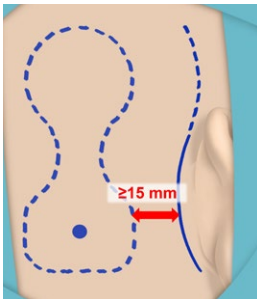
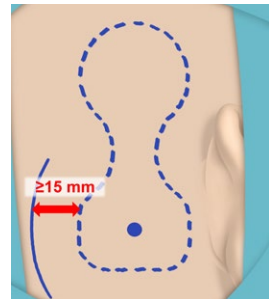

Fig.7: Post-auricular incision with superior extension
Fig.9: Posterior C-shape incision
4. *Fig.7–Fig.9* show possible incision options. **Other variations are possible and depend on the patient’s anatomy.** Independent from the incision method, it is important to have a distance of 15 mm or more between the incision and the edge of the implant to avoid tension on the skin and possible post-surgical complications.